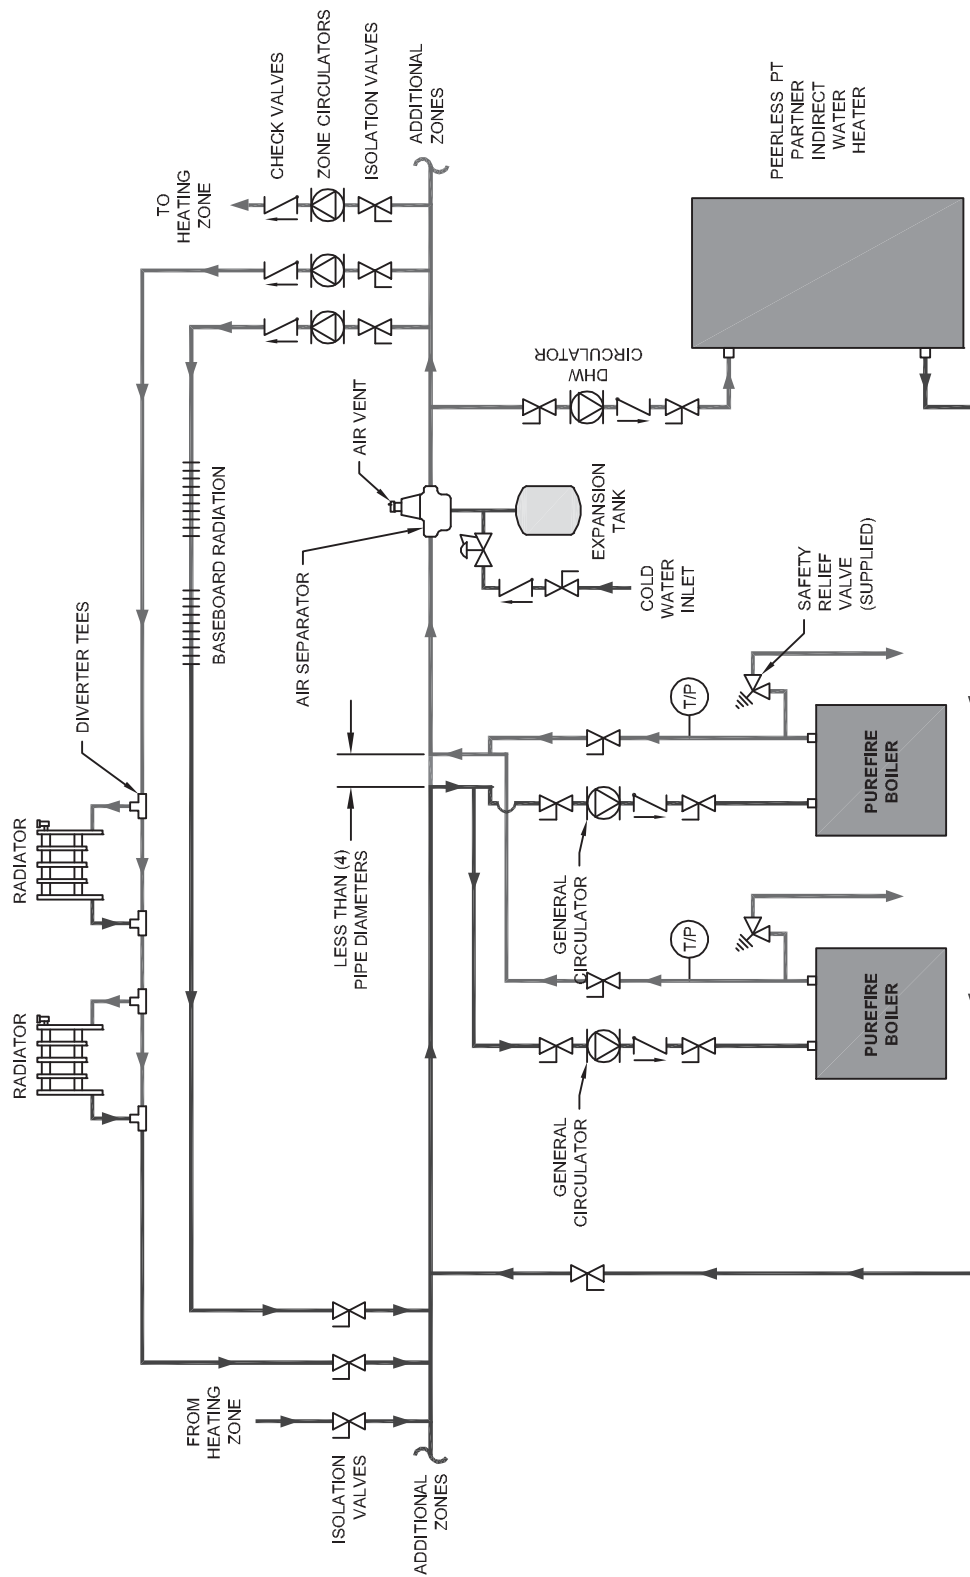

Figure 4.7: Two Boilers, Primary/Secondary with Four Zones (Zone Circulator)
3. In Figure 4.7 an additional boiler is added and more heating zones are shown. Notice that the two boilers are piped in parallel on the secondary loop. This maximizes the efficiency of the boilers since the lowest temperature system water is returning to both boilers.